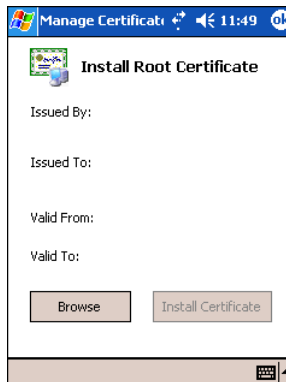

Figure 8-11. EAP-TLS/PEAP Install Root Certificate
- On the *Install Root Certificate* window (Figure 8-11), tap **Install Certificate**.